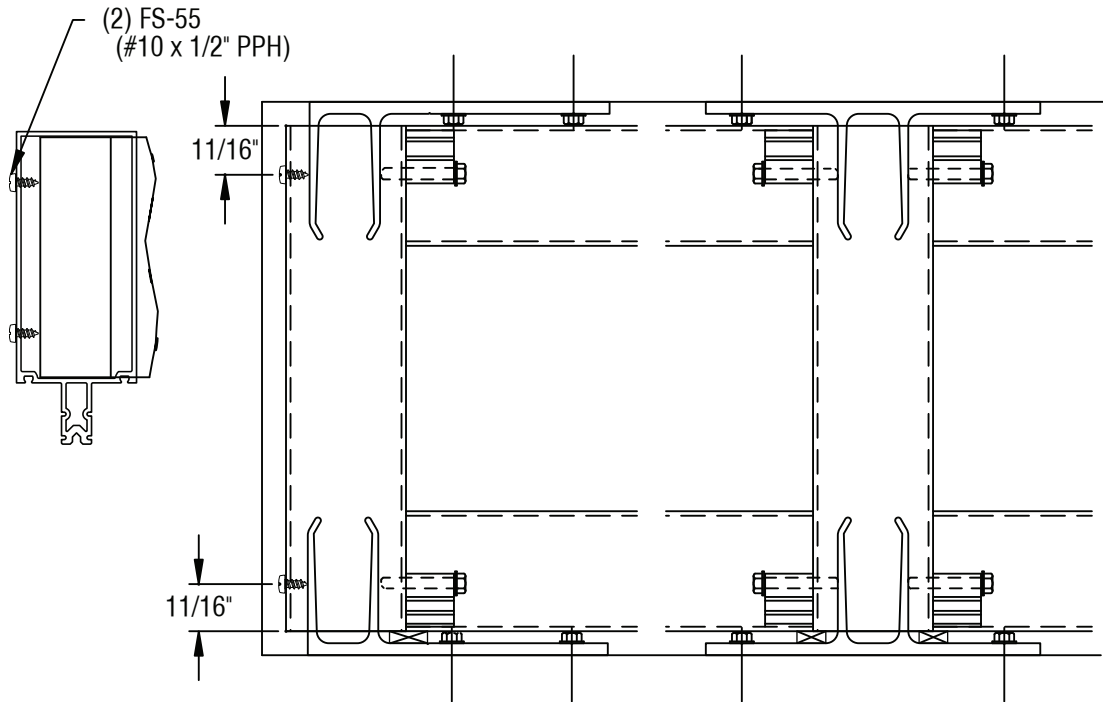

FIGURE 8
- 2.1.2 Install verticals plumb and level. Place shims between vertical mullion and anchor at sill to evenly distribute deadload from wall. Prior to installation, install (2) FS-55 (#10 x 1/2" PPH) fasteners at each end of mullion to hold jamb "F" anchor centered in vertical. Install tee anchor at head to allow for thermal movement of the vertical mullions. **SEE FIGURE 8, page 11.** Anchor type and sizes vary per job requirements. Details shown in these instructions are to be used as a guide only. Refer to approved shop drawings for actual conditions.
- 2.1.5 When using "T" anchors, slide "T" anchors into top and bottom of vertical mullions. The "T" anchors are designed to clear the shear block fasteners. Prior to installation, when using jamb "F" anchor, install (2) FS-55 (#10 x 1/2" PPH) fasteners at each end of mullion to center "F" anchor in vertical. **SEE FIGURE 8.**